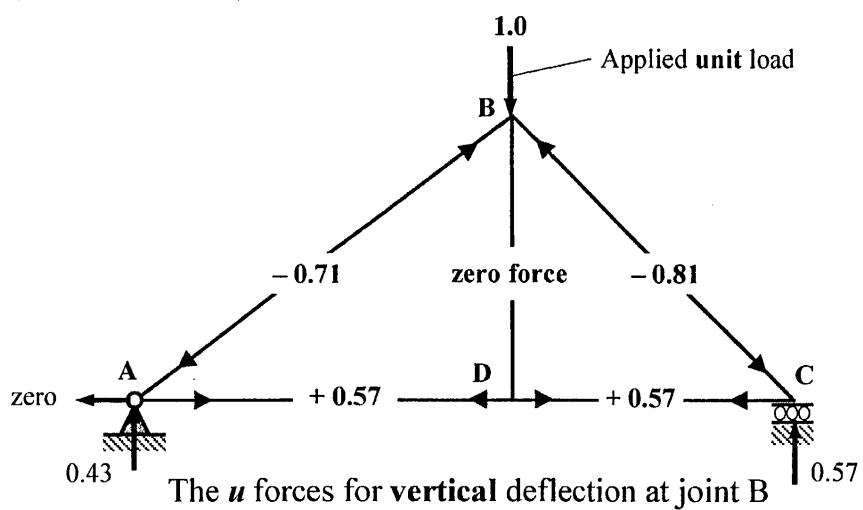

Figure 3.19
**Step 2:** To determine the vertical deflection at joint B remove the externally applied load system and apply a **unit load only** in a vertical direction at joint B as shown in Figure 3.19. Use the *method of sections* or *joint resolution* as before to determine the magnitude and sense of the unknown member forces (i.e. the **u** forces).
The reader should complete this calculation to determine the member forces as indicated in Figure 3.19.